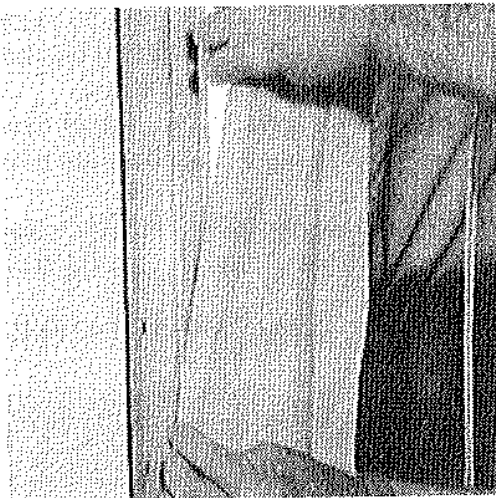

Fig. 7
11. Insert canvas by folding the hard edge of tent over 180° and inserting this portion into channel of screen door, starting at the bottom. This assures the best possible fit. Fig. 7